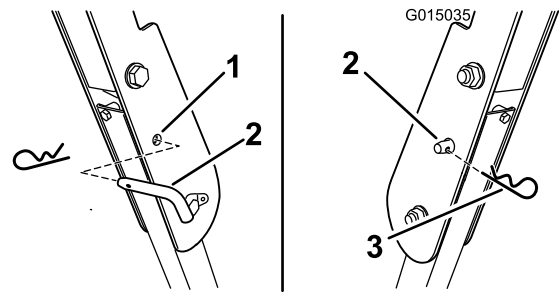

Figure 8
4. To lower the roll bar, remove the hair pin cotter and remove the locking pin (Figure 8).
3. Install the locking pins. Secure the pins by installing the hair pin cotter (Figure 8).